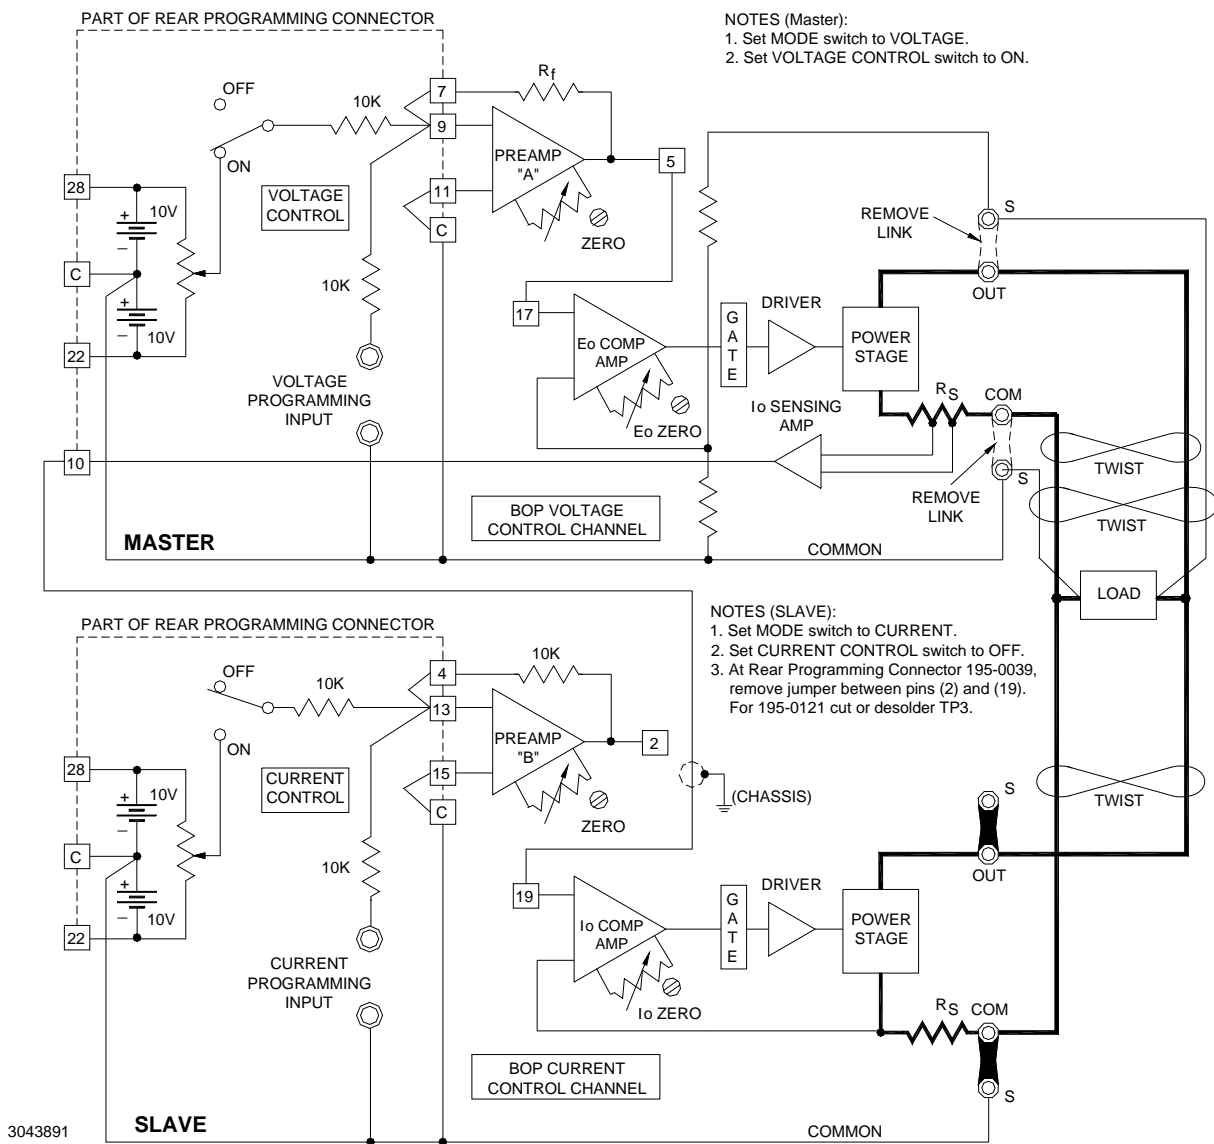
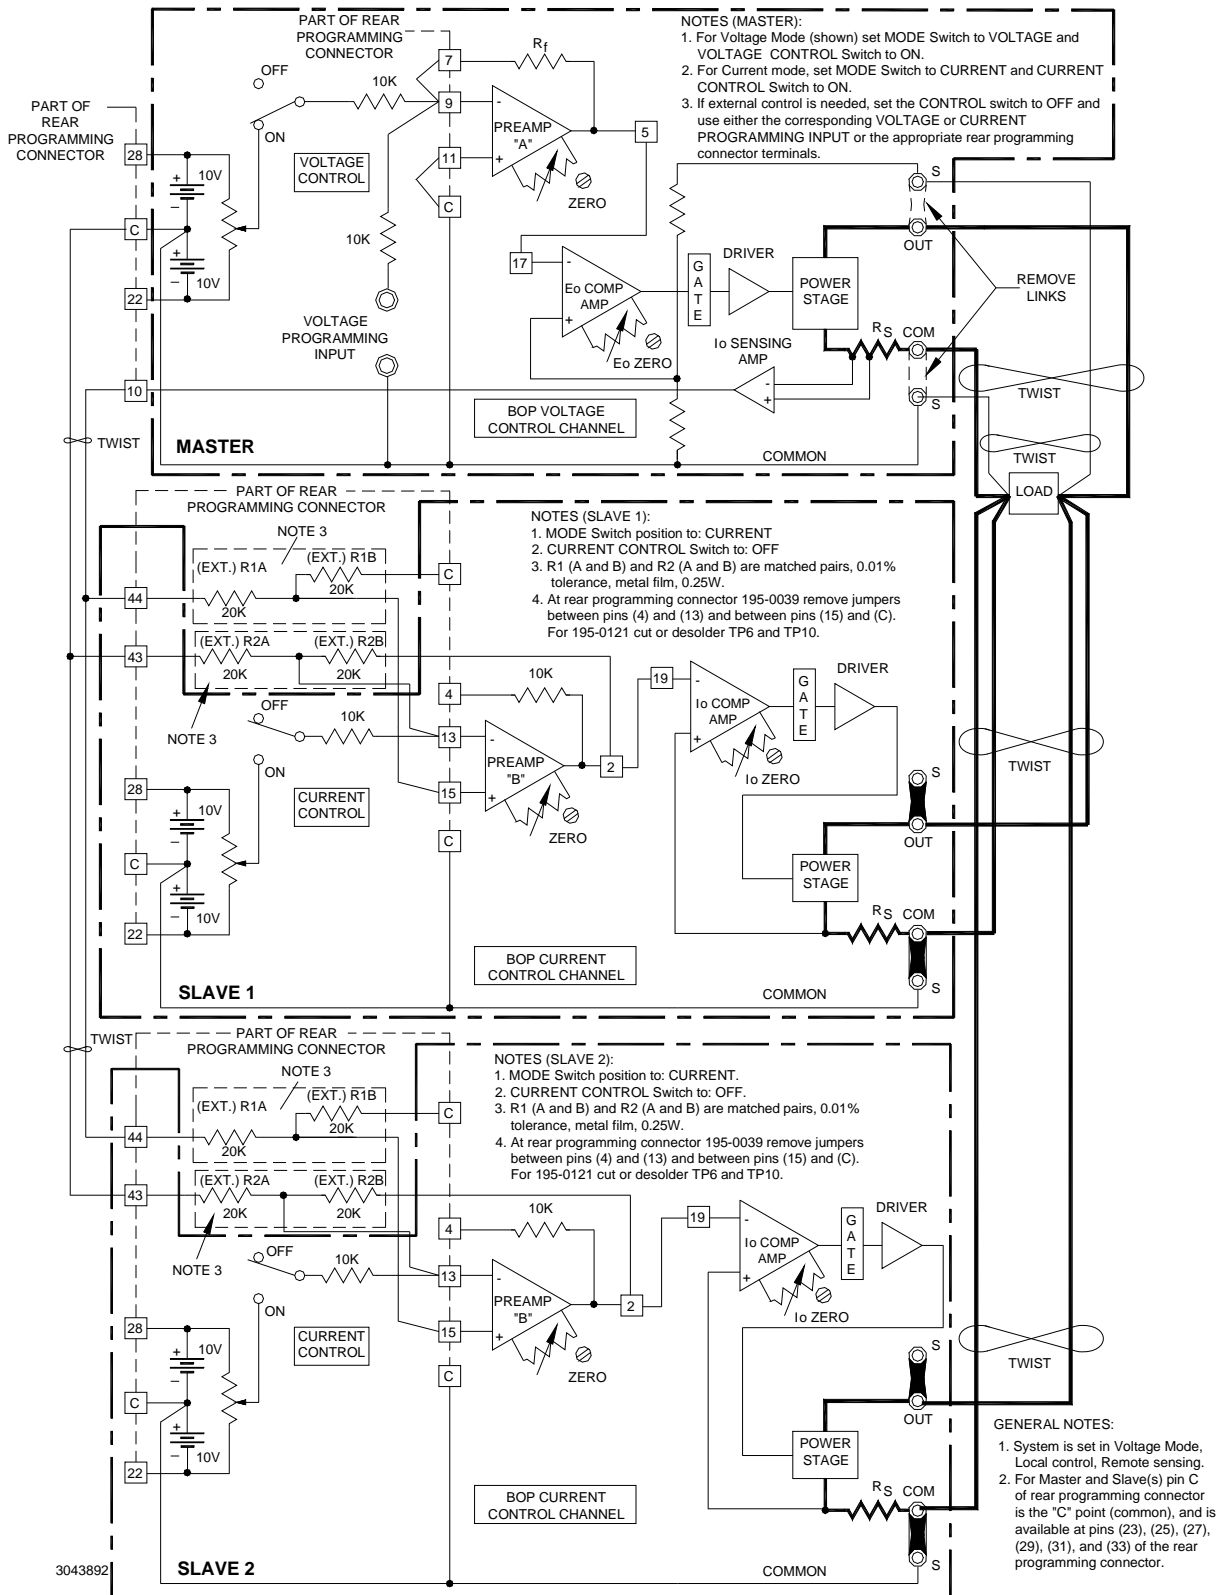

FIGURE 3-26. PARALLEL CONNECTION (MASTER/SLAVE) OF TWO BOP POWER SUPPLIES WITH REMOTE ERROR SENSING AT THE COMMON LOAD
FIGURE 3-27. ALTERNATIVE PARALLEL CONNECTION (MASTER/SLAVE) FOR GREATER PRECISION AND STABILITY OF TWO OR MORE BOP POWER SUPPLIES
Figure 3-26 shows a simple parallel master/slave connection of no more than two BOP power supplies. The configuration shown in Figure 3-27 is more stable and accurate than that shown in Figure 3-26 since it includes compensation that eliminates the parasitic voltage drop on the COM connections of the slaves. The slave's preamplifier B is configured as a differential amplifier for the master's output current monitoring signal. Figure 3-27 is recommended for more than two units in parallel or where greater precision and stability is desired.
1. Connect the BOP supplies as shown in Figure 3-26 or 3-27 (see above for details).
- a. Set the MODE switches and the VOLTAGE and CURRENT CONTROL switches as directed in the set-up diagram, Figure 3-26 or 3-27.
2. Following the set-up procedure as described above, turn BOP's on and commence operation. The system as shown in the set-up diagram, Figure 3-26 or 3-27, operates in the Voltage Mode, since the MASTER MODE switch is set to VOLTAGE. For operation in the current mode, set the MASTER MODE switch to CURRENT.